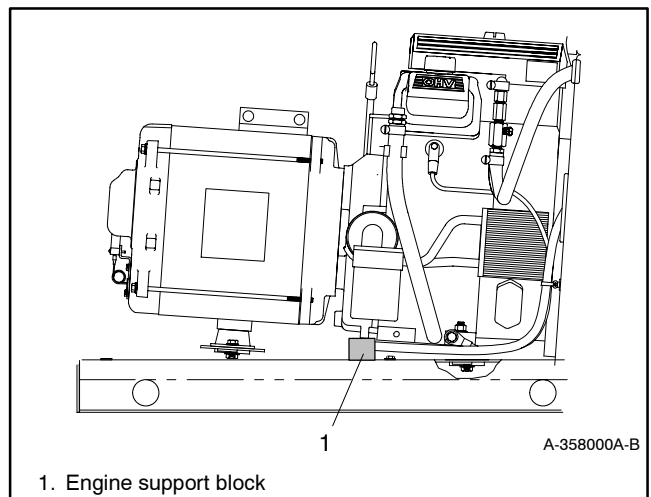

Figure 8-6 Generator Set, Right Side
- b. Raise the alternator end of the generator set enough to place a thin block of wood beneath the rear of the engine. See Figure 8-6.